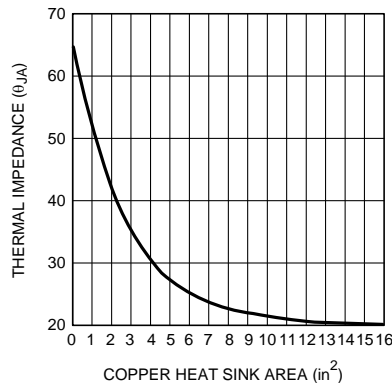

Figure 9. Thermal Resistance for 5-lead TO–263 Package Mounted on 1oz. Copper
The TO-263 package has excellent thermal characteristics. To minimize thermal impedance, its exposed die attach paddle should be soldered to a circuit board copper area for good heat dissipation. Figure 9 shows typical thermal resistance from junction to ambient as a function of the copper area. The TO-263's exposed die attach paddle is electrically connected to the V_{EE} power supply pin.
If a heat conductive copper plane has perfect thermal conduction (heat spreading) through the plane's total area, the temperature rise is inversely proportional to the total exposed area. PCB copper planes are, in that sense, an aid to convection. These planes, however, are not thick enough to ensure perfect heat conduction. Therefore, eventually a point of diminishing returns is reached where increasing copper area offers no additional heat conduction to the surrounding air. This is apparent in Figure 9 as the thermal resistance reaches an asymptote above a copper area of 8in²). As can be seen, increasing the copper area produces decreasing improvements in thermal resistance. This occurs, roughly, at 4in² of 1 oz copper board. Some improvement continues until about 16in². Boards using 2 oz copper boards will have decrease thermal resistance providing a better heat sink compared to 1 oz. copper. Beyond 1oz or 2oz copper plane areas, external heat sinks are required. Ultimately, the 1oz copper area attains a nominal value of 20°C/W junction to ambient thermal resistance (θ_{JA}) under zero air flow.
5. θ_{JA} as a function of copper area in square inches is shown in Figure 9. Choose a copper area that will guarantee the specified $T_{J(MAX)}$ for the calculated θ_{JA} . The maximum value of junction to ambient thermal resistance, θ_{JA} , is defined as:
4. Finally, choose the minimum value of copper area from Figure 9 based on the value for θ_{JA} .